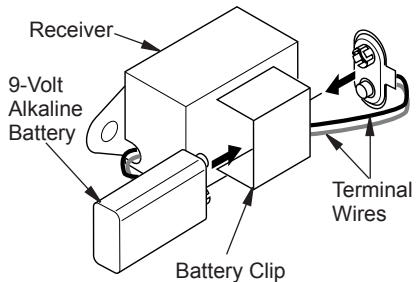

Figure 38 - Attaching Alkaline Battery to Receiver
3. Locate battery clip mounted on back of receiver. Slide a 9-volt alkaline battery (not included) through clip (see Figure 38).